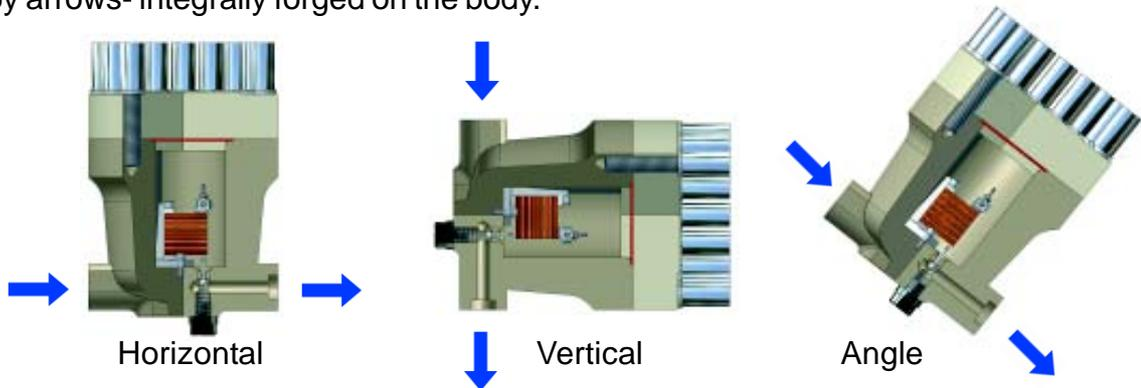

Fig.5 All position installation
- a. The trap can be installed in any convenient position (see fig 5). In the vertical position with the inlet on top, the trap is self-draining and therefore freezeproof, provided the condensate can drain away (see fig 6). Direction of flow is indicated by arrows- integrally forged on the body.